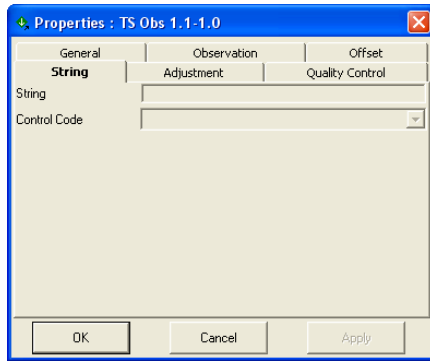

Figure 5-104. String Properties
5. The *Strings* tab displays the first string and displays the control code for the point (Figure 5-104).
6. View or edit *Adjustment* tab fields for setting the *AutoReject* option and viewing the status and residuals for the observation (Figure 5-104).
7. The *Quality Control* tab contains informational text on selected observations (marked in red on the views) that did not pass some of the quality control checks (Figure 5-104).